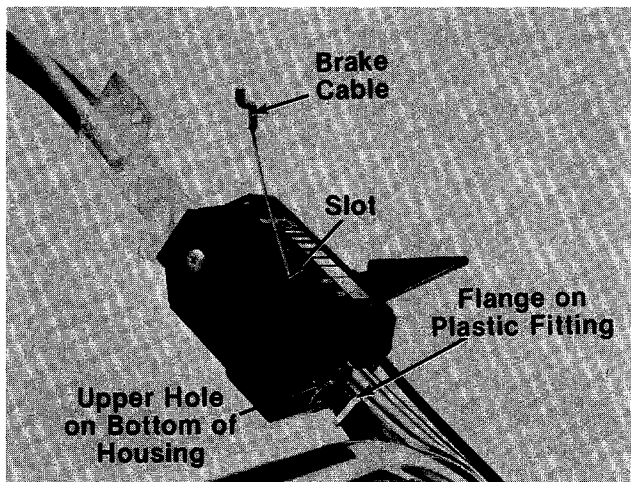

FIGURE 5.
8. Route the brake cable under the lower handle. Place end of cable into the upper hole on the bottom of the control housing, and through the slot as shown. The angle of the flange on the plastic fitting must be positioned downward as shown in figure 5. Be careful not to bend or kink the cable.